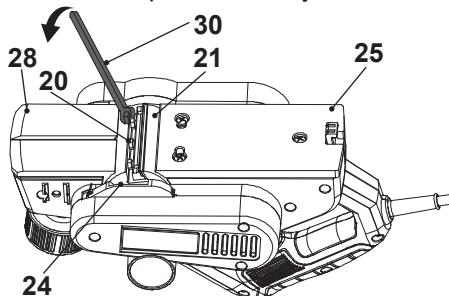

Fig. 15
2. Turn the roller (21) until the blade shaft is adjusted between the plates (25, 28).
3. Loosen the hex bolts (20) slightly anticlockwise using the wrench (30) (Fig. 15).